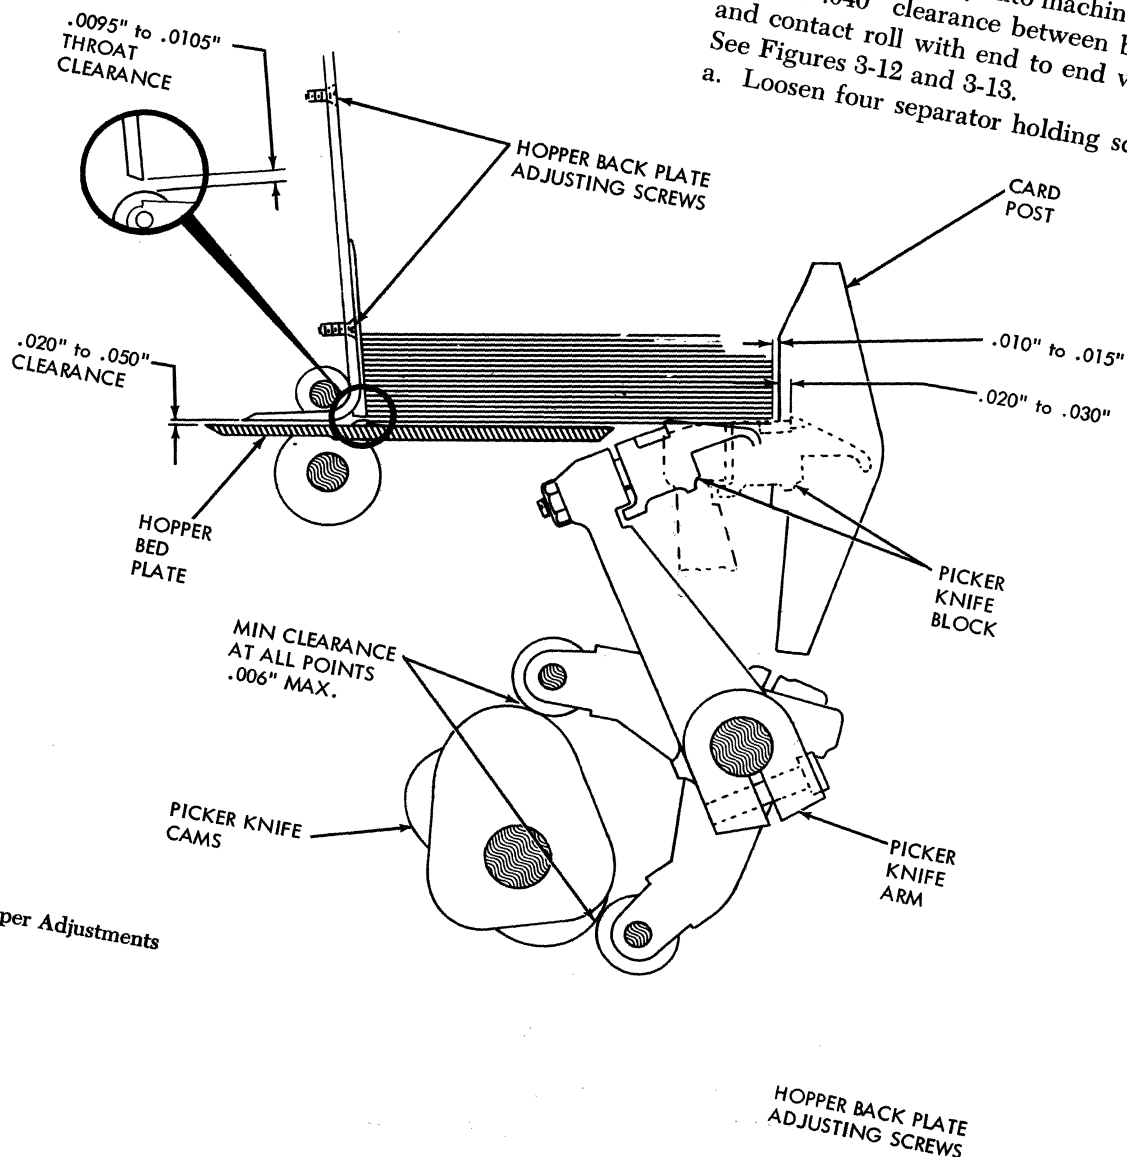

Figure 3-10. Hopper Adjustments
4. Adjust hopper back plate card guide fingers for .020" to .050" clearance to hopper bed plate fingers. See Figure 3-10.